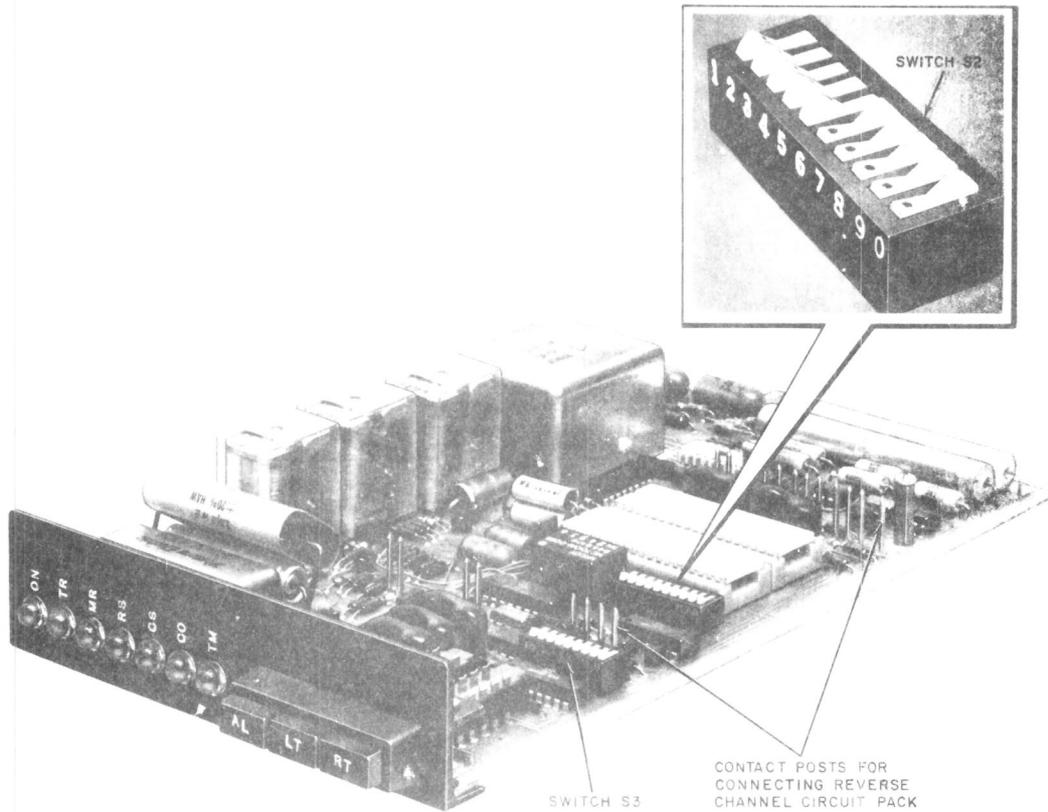

Fig. 2—Data Set 202S-L1 (-L1A Is Similar)
- The basic data set (Fig. 2) is a circuit pack with a faceplate coded -L1C.
A. Data Sets 202S-L1 (MD), -L1A (MD), and -L1C
2.04 The miniature rocker switch assemblies (Fig. 2 and 3) S2, S3 and S4 allow the telephone company (telco) employee to select options